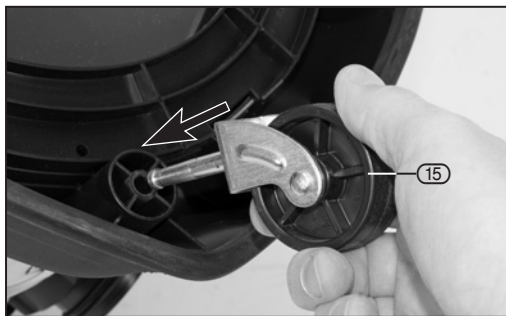

FIG. 4
6.3 FITTING THE CASTORS - FIG. 4
- Snap-fit the 2 castors (15) into the holes located on the machine base to complete the assembly.